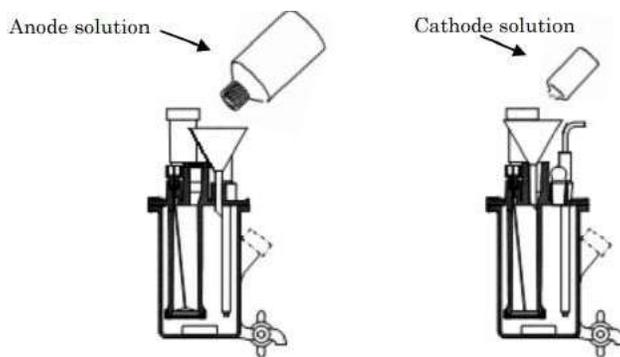
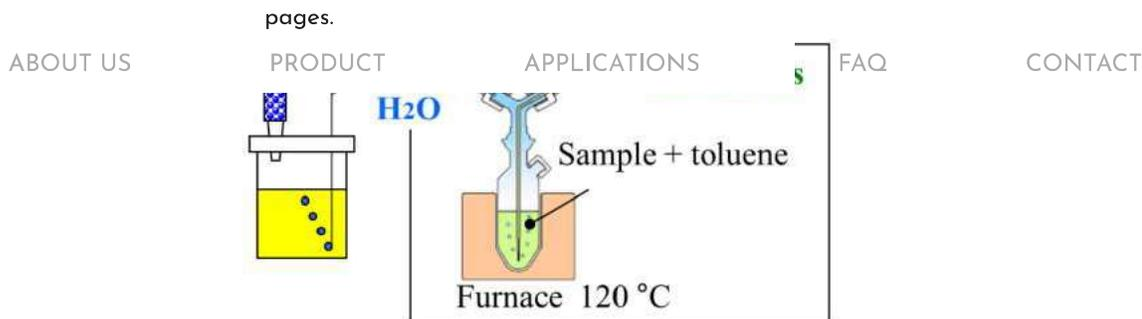
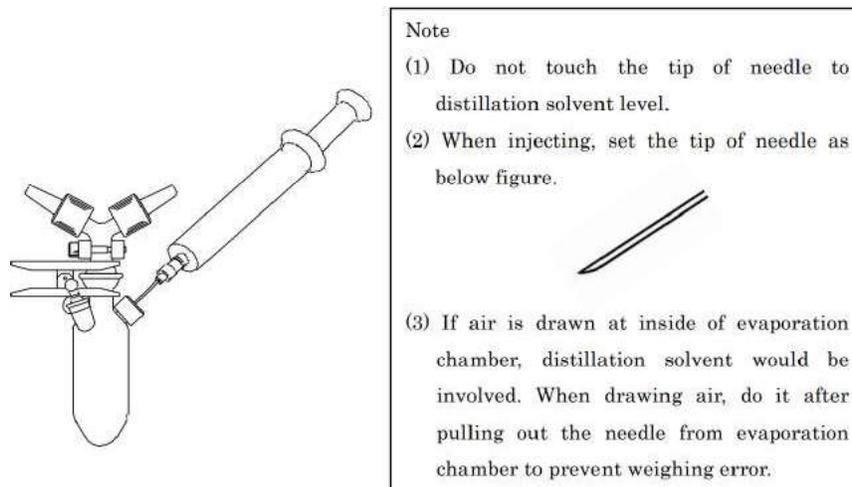

Fig.3.1. Preparation of the reagents.
Fig.3.3. Schematic diagram of azeotropic distillation method.
Fig.3.4. Sample injection into evaporation chamber.
- (1) Fill 100 mL of anode solution and one ampoule of cathode solution into the electrolytic cell as shown in Fig.3.1.
- (2) Start blanking to attain stable background.
- (3) Wash the syringe with sample.
- (4) Draw the sample into syringe and then weigh the syringe.
- (3) Connect electrolytic cell and evaporation chamber with tube. Flow carrier gas with 50 mL/min
- (4) Fill 5 mL of distillation solvent in evaporation chamber and heat the chamber at 120 °C.
- (5) Keep blanking to attain stable background with carrier gas flowing into electrolytic cell.
- (6) Wash the syringe with sample.
- (7) Draw the sample into syringe and then weigh the syringe.
- (8) Inject sample from rubber septum of distillation chamber as shown in Fig.3.3 and Fig.3.4.
- (9) Start titration. Measurement parameter is shown in Table 4.2.
- (10) Weigh the syringe again and then set the difference of weight to sample size.